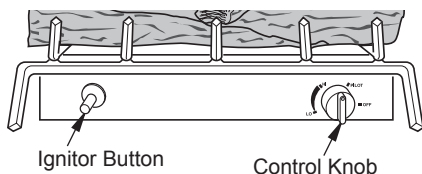

Figure 21 - Control Knob and Ignitor Button Location
- Slightly depress and turn control knob counterclockwise  to the **PILOT** position. Press in control knob for five (5) seconds (see Figure 21).